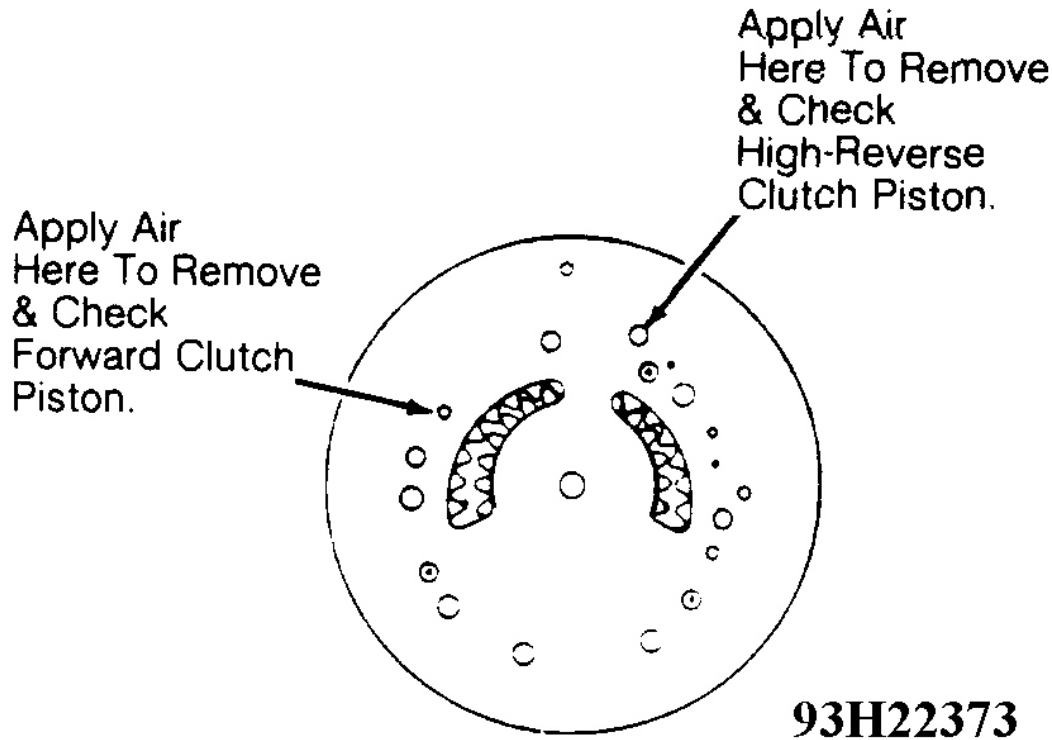

Fig. 12: Locating Oil Passages
2. Using Spring Compressor (ST25420001), compress clutch springs. Remove snap ring from spring retainer. Remove spring retainer and lift out springs. Mount clutch drum on oil pump housing. Apply compressed air to oil passage (in oil pump housing) to remove clutch piston. See **Fig. 12** . Remove and discard piston seal.
If clearance is correct, mount clutch in oil pump housing. Apply compressed air to oil passage (in oil pump housing) to test clutch operation. See **Fig. 12** .
2. Using Spring Compressor (ST25420001), compress clutch springs. Remove snap ring from spring retainer. Remove spring retainer and lift out springs. Mount clutch drum on oil pump housing. Apply compressed air to oil passage (in oil pump housing) to remove clutch piston. **Fig. 12** Remove and discard piston seals.
4. If clearance is incorrect, replace retainer plate. See **FORWARD CLUTCH SPECIFICATIONS** . Mount clutch in oil pump housing. Apply compressed air to oil passage (in oil pump housing) to test clutch operation. See **Fig. 12** .